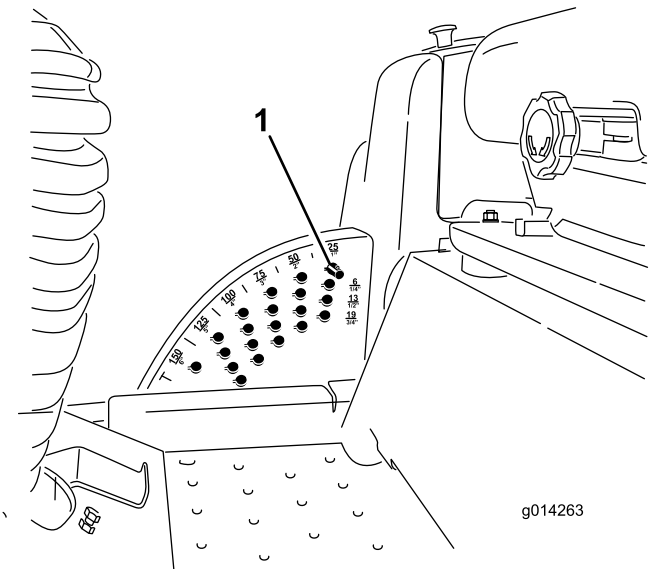

Figure 6
1. With the engine running, push back on the mower lift switch until the mower is fully raised and **release the switch immediately** (Figure 6).
2. To adjust, rotate the stop pin until the nub on it lines up with the slots in the holes in the height-of-cut bracket and remove it (Figure 6).
3. Select a hole in the height-of-cut bracket corresponding to the height-of-cut desired, insert the pin, and rotate it down to lock it in place (Figure 6).
- Note:** There are four rows of hole positions (Figure 6). The top row gives you the height of cut listed above the pin. The second row down gives you the height listed plus 6 mm (1/4 inch). The third row down gives you the height listed plus 12 mm (1/2 inch). The bottom row gives you the height listed plus 18 mm (3/4 inch). For the 15.8 cm (6 inch) position there is only one hole, located in the second row. This does not add 6 mm (1/4 inch) to the 15.8 cm (6 inch) position.